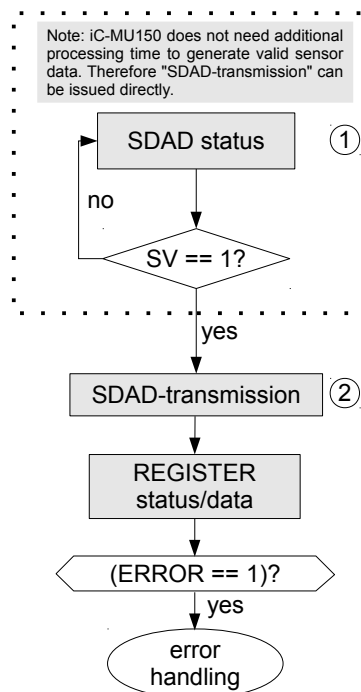

Figure 28: Example sequence of the commands SDAD Status/SDAD-transmission
Figure 28 shows the interaction of the two commands **SDAD Status** and **SDAD transmission**. It is not necessary to start each sensor data communication with the command **SDAD Status** (1). iC-MU150 has no processing time and can therefore directly output valid sensor data. Because of that the command sequence can start with **SDAD-transmission** (2). Following this, the command **REGISTER status/data** should be executed to detect an unsuccessful SPI communication.